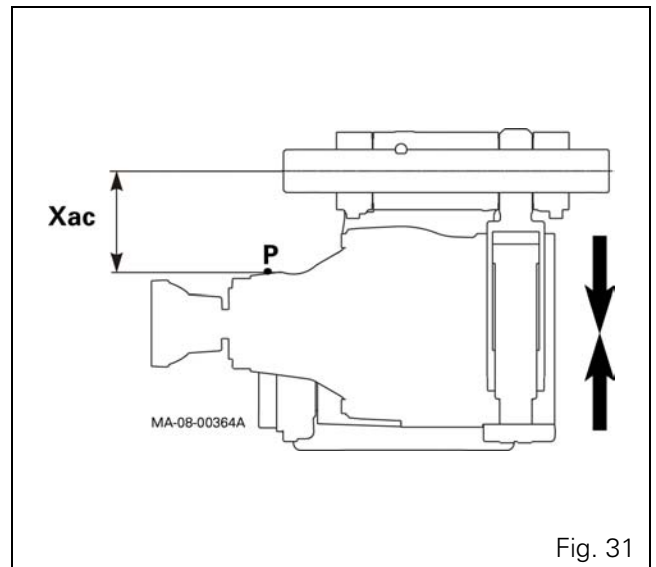

Fig. 31
34. Measure the distance  $X_{ac}$  in Axle closed position between the pivot pin centre and the differential housing, choosing an exact reference point P (Fig. 31).